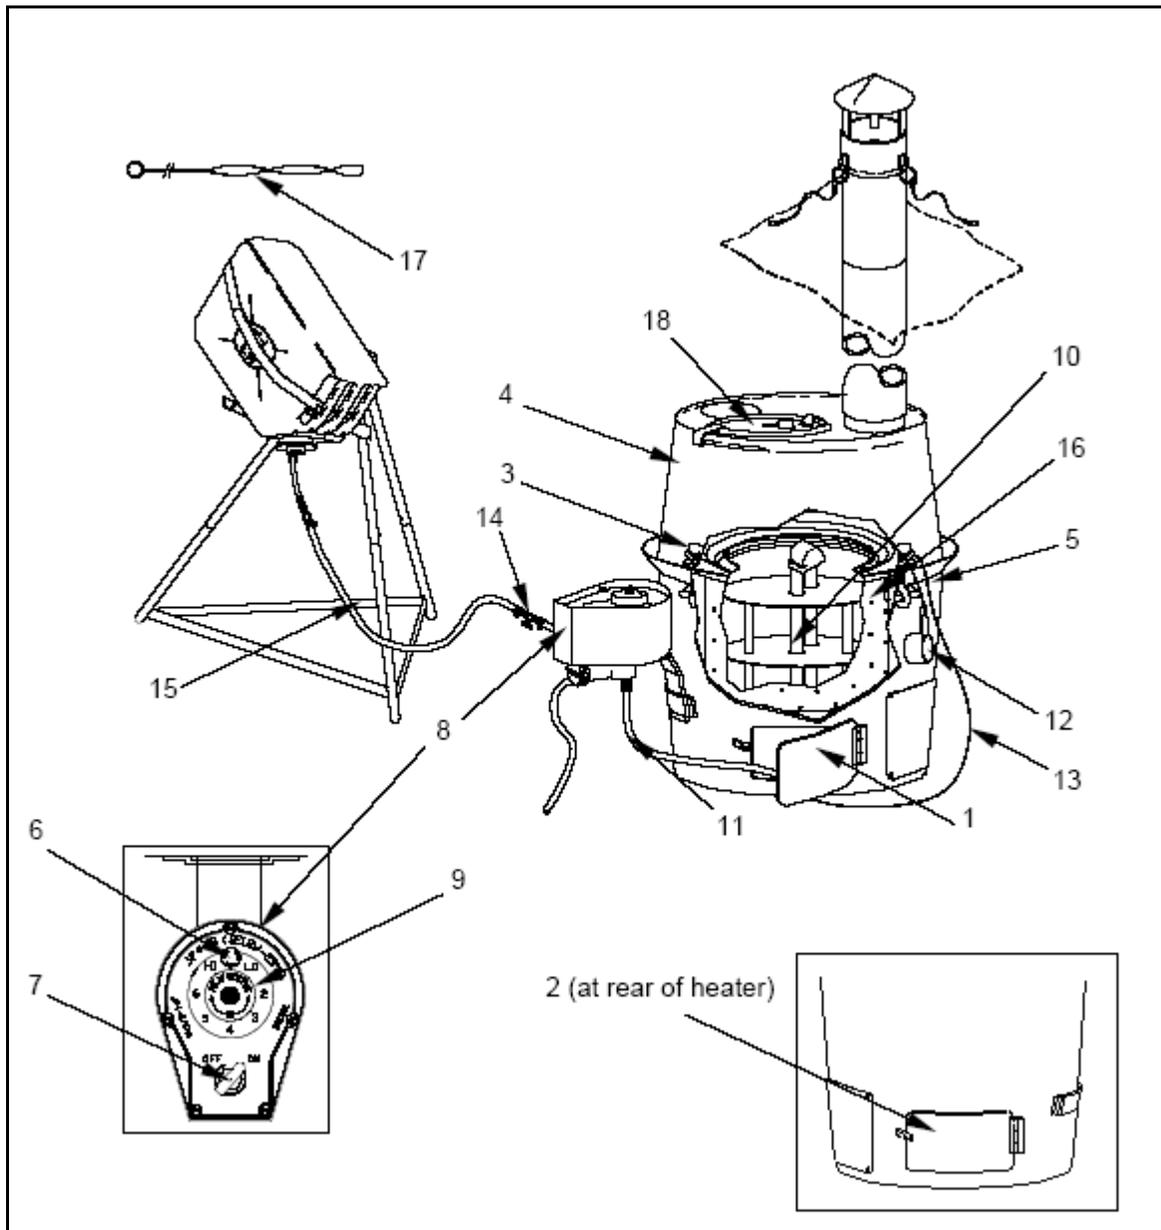

Figure 15
a. Starting and Operating the H-45. (See Figure 15)
(1) Open both base heater doors (1, 2).
(2) Set the fuel selector control knob (6) to the proper position for the ambient temperature and the fuel being used as described in WP 0004 00, Table 2. Once the temperature and fuel are determined, lift the fuel selector control knob (6), and turn the entire control assembly until the fuel selector control knob (6) engages in the detent. Release the fuel selector control knob (6).
(3) Turn the fuel OFF/ON control (7) on the fuel flow control valve (8) to the ON position.
**NOTE: The flow adjustment knob (9) on top of the fuel flow control valve increases the fuel flow when turned clockwise and decreases the fuel flow when turned counterclockwise.**
(4) Turn the flow adjustment knob (9) to the HI position. Wait 5 to 10 minutes for the flow control burner hose (11) and burner uptube (10) to fill with fuel. Shake and tap the hoses (11,15) to free any air that may be trapped in the hoses. Turn the flow adjustment knob (9) back to setting “3.”
(5) Using the 4-ounce cup (12) attached to the retaining wire (13), open the priming valve T-connector (14) on the fuel supply hose (15), and carefully fill the cup with fuel. Remove the lid